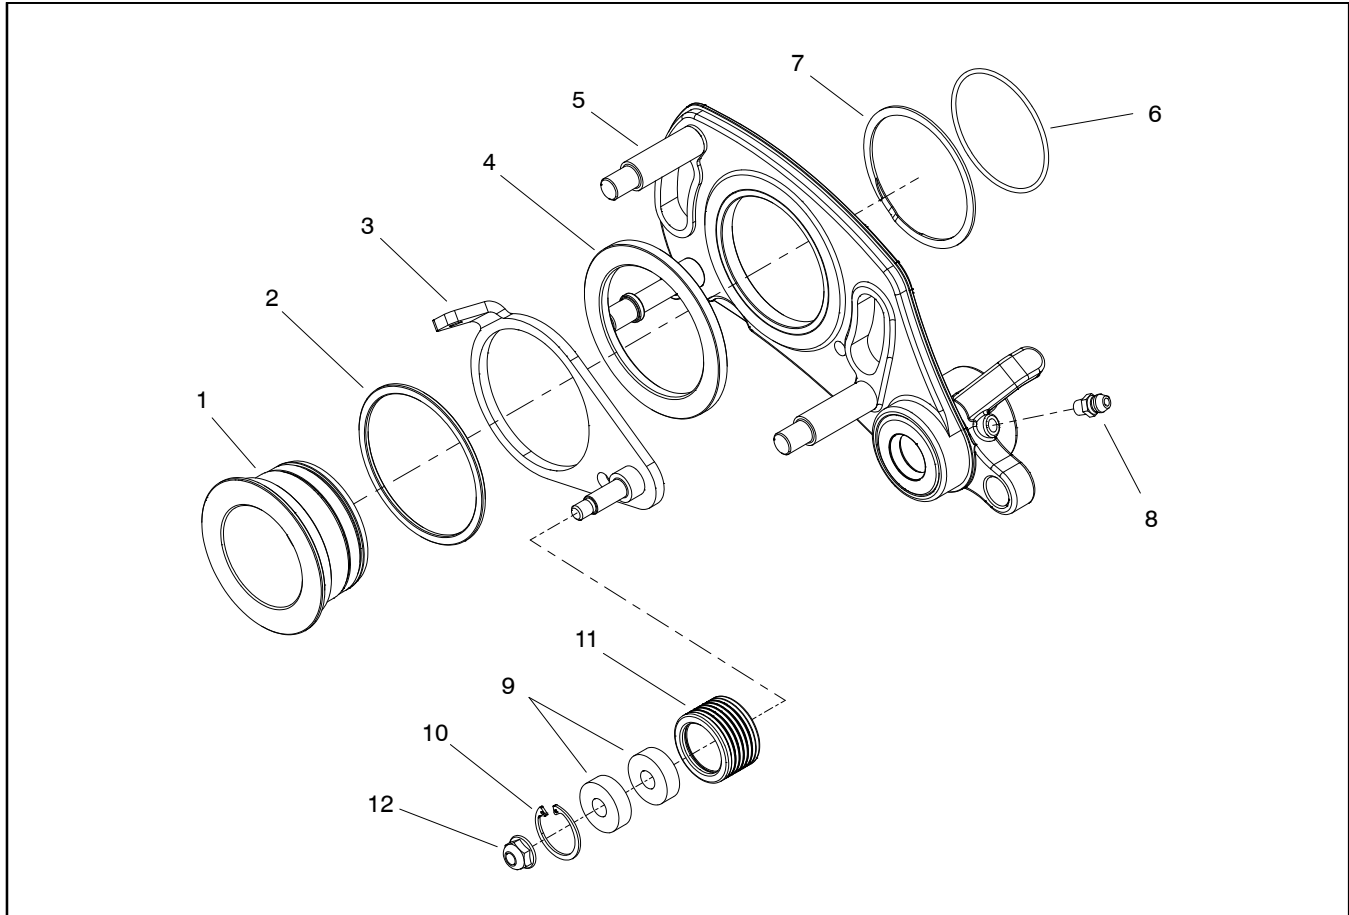

Figure 24
4. Using Figures 24 and 25 as guides, remove idler bracket, idler pulley and/or idler bearings as needed.
1. Assemble removed components using Figures 24 and 25 as guides.